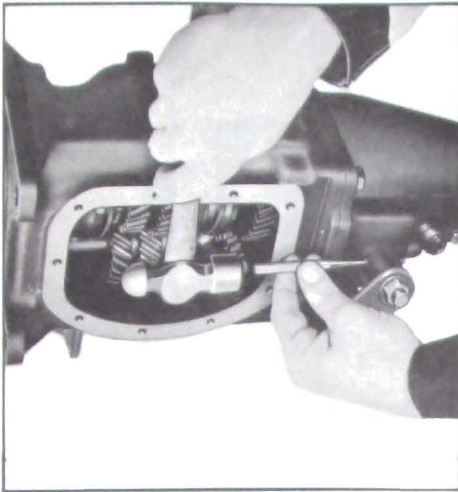

Figure 4-122—Removing Reverse Shifter Shaft Lock Pin
4. Drive lock pin up from reverse shifter lever boss, as shown in Figure 4-122, and pull shifter shaft out about 1/8". This dis-